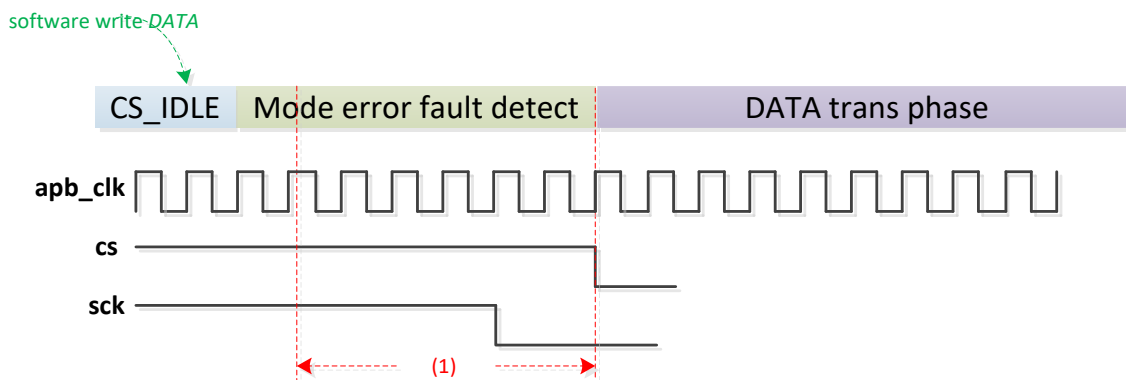

Figure 18-9 Limitation of mode fault detect
This mode fault detect function may can't detect the mode fault by master 1 with some special cases. If master 2 drive CS low during (1) period in Figure 18-9, master 1 will not set MODEF. Only master 2 drive CS low before (1) period that master 1 can set MODEF.